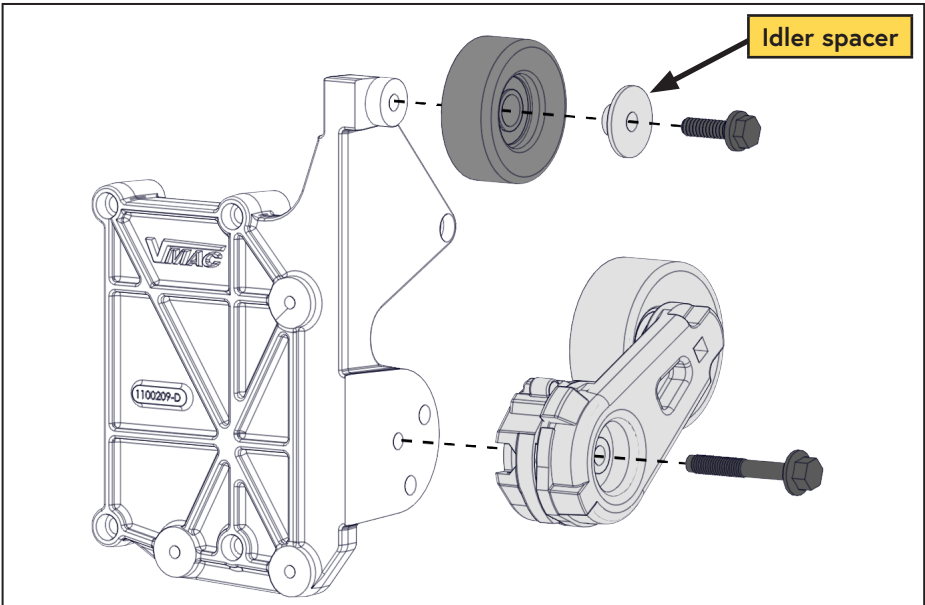

Figure 11 — Install idler, idler spacer and tensioner
- Apply Loctite 242 (blue) and install the idler, idler spacer and tensioner onto the main bracket. Torque the fasteners to specification (Figure 11).